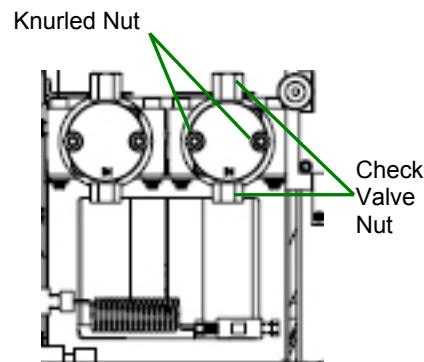

Figure 6-3 Solvent Pumps
1. Remove the nut that secures the tubing on the inlet check valve that draws solvent from the mobile phase reservoir manifold (Figure 6-3) from the inlet check valve that (from the mobile phase reservoir manifold). This nut can normally be loosened by hand.